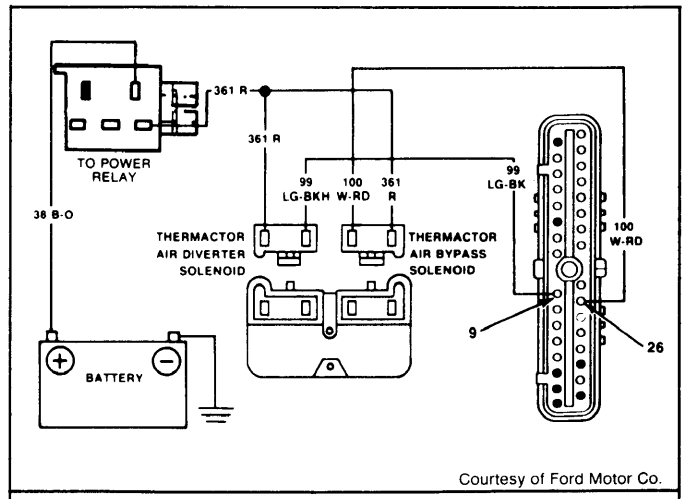

Fig. 18: TAB/TAD Solenoid Circuit
2) To determine if solenoid is open, check Red wire (circuit No. 361) at both solenoids. See Fig. 18. If reading is greater than 10 volts at both solenoids, replace TAB/TAD solenoid assembly. If reading is less than 10 volts, repair open in Red wire.